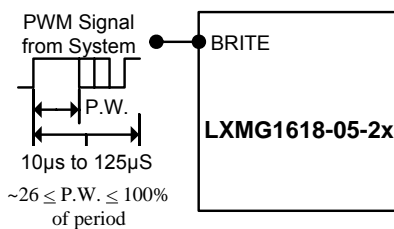

Figure 1A – PWM Brightness Control
- The brightness control may be a voltage output DAC or other voltage source, a digital pot or 20K manual pot. The inverter contains an internal 10K pull-up to 3V to bias the pot add a 2.7K resistor to set the lower threshold voltage. A 3.3V Logic Level PWM signal from a micro-controller may also be used as shown in Figure 1A.